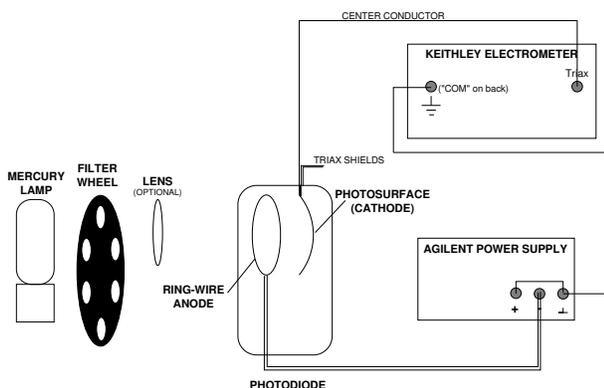

FIG. 1: Experimental arrangement for measuring the photoelectric effect. The lens focuses the light to avoid hitting the anode ring.
The apparatus is depicted in Figure 1. Familiarize yourself with all of the components before turning anything on or making any signal connections.
- (c) Because you are measuring such small currents (the currents you obtain with no retarding voltage should be on the order of hundreds of picoamps), the ammeter will be prone to pick up induced currents from ambient magnetic fields and your inducing charges while moving near the apparatus. You can avoid such interference by keeping the connecting wires as short and direct as possible and free of loops. For instance, you might want to use a short piece of copper wire to ground the positive terminal of the power supply as shown in Figure 1. You may also find it useful to twist some of the cables together.